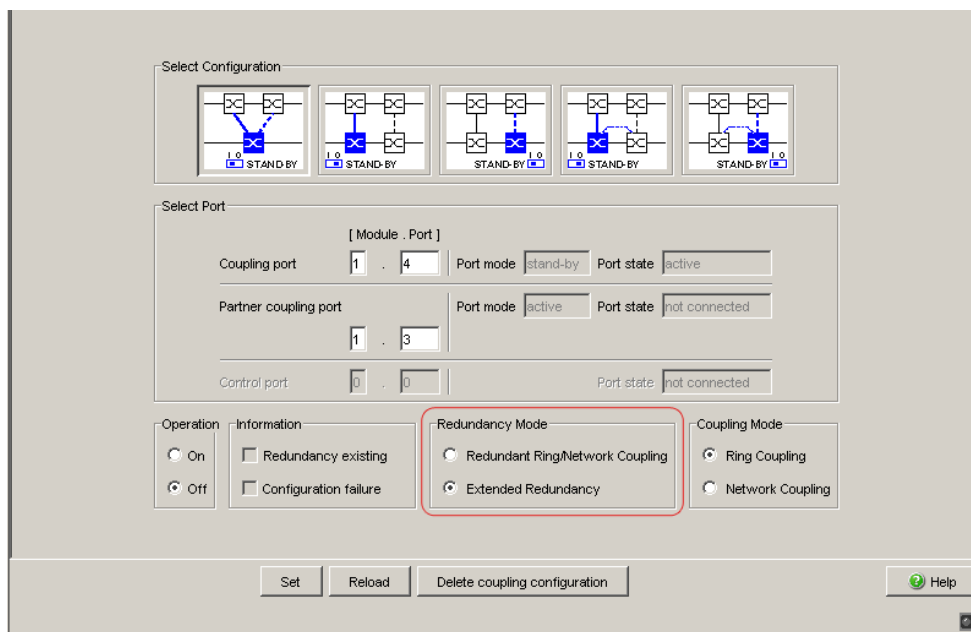

Figure 23: Selecting the redundancy mode
- In the “Redundancy Mode” frame, select (see fig. 23)